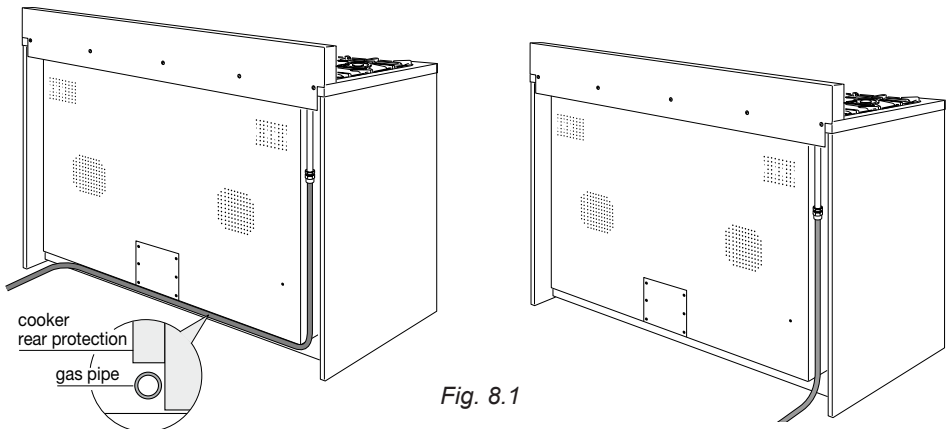

Fig. 8.1
- The gas supply is connected at the rear of the cooker to the terminal of the gas inlet pipe (fig. 8.1). The connection pipe must not cross the rear of the appliance.